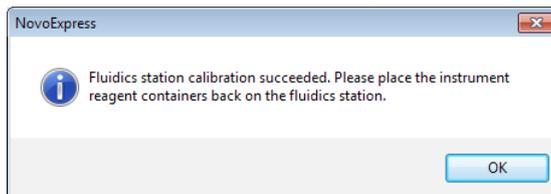

Figure 4-23 NovoExpress™ Software Prompted Message indicating Fluidics station Calibration is successful
- 3 The software will prompt message indicating *Fluidics Station Calibration Succeed*. Follow the instruction to place the NovoFlow™, NovoRinse™, NovoClean™, and waste containers back into the fluidics station and click *OK* button (Figure 4-23).